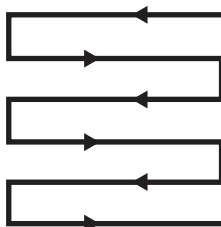

Fig. 27
12. Work in slight overlapping rows. The most effective pattern for scarifying lawns is straight lines along one of the sides. This will keep the rows even and ensures that all the lawn is scarified without missing any spots (Fig. 27).